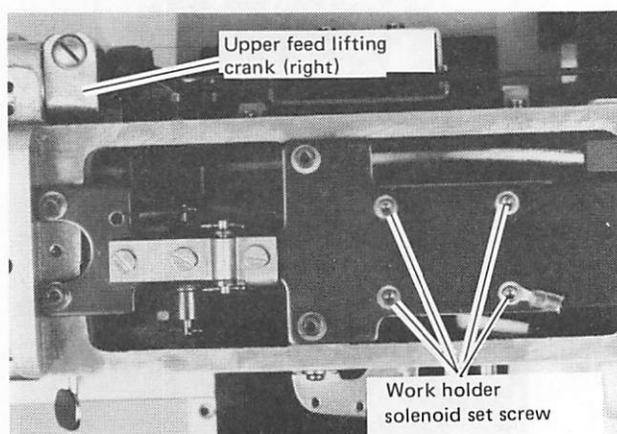
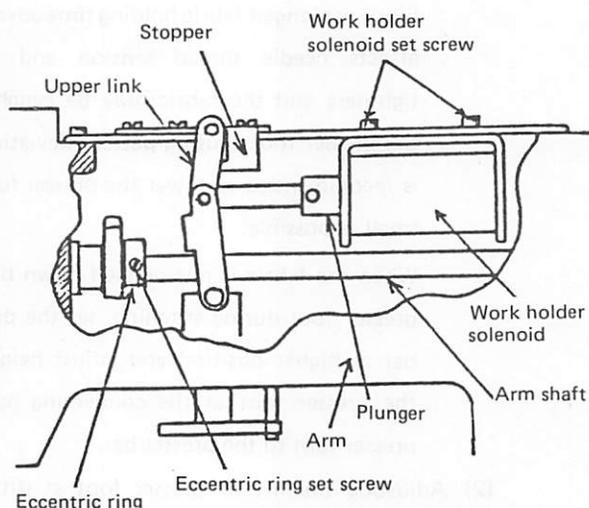
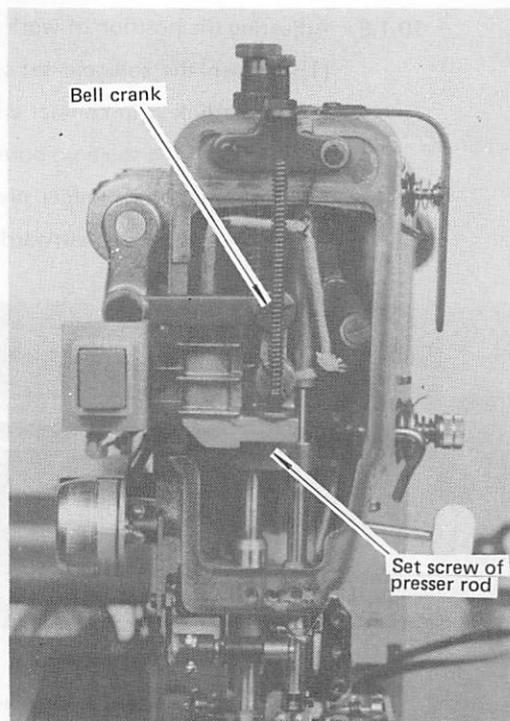

Fig. 10.8
Fig. 10.9
Fig. 10.10
- (1) Loosen the solenoid set screw shown in Fig. 10.8 and adjust solenoid position so that the upper link is in contact with the stopper when the solenoid is pulled (the plunger is in contact with the solenoid bore bottom). (See Fig. 10.9.)
- (2) Note that work holder pressure becomes extremely small and the work holder may go up if the link is located leftward. (See Fig. 10.9.)
- (1) Timing of presser foot vertical movement is governed by position of the eccentric ring shown in Fig. 10.9.
- (2) When the presser foot is at the lowest position the direction of the eccentric ring should be perpendicular to the illustration of Fig. 10.9, and face backward.
- (1) Presser foot height during stitching
- a. Turn the balance wheel by hand with the sewing machine turned off to locate the takeup lever at the highest position. Under this condition, adjust the upper feed lifting crank (right) shown in Fig. 10.8 so that the lengthwise center of bell crank (see Fig. 10.10) is parallel with the presser bar and then fix. (For this adjustment, the eccentric ring should have been properly adjusted.)